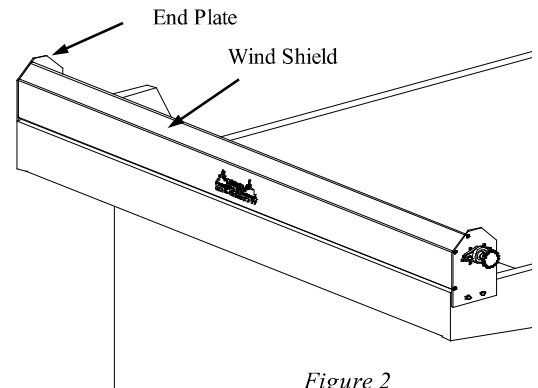

Figure 2
**Mounting the roller assembly on top of the cab protector, see figure 2.**